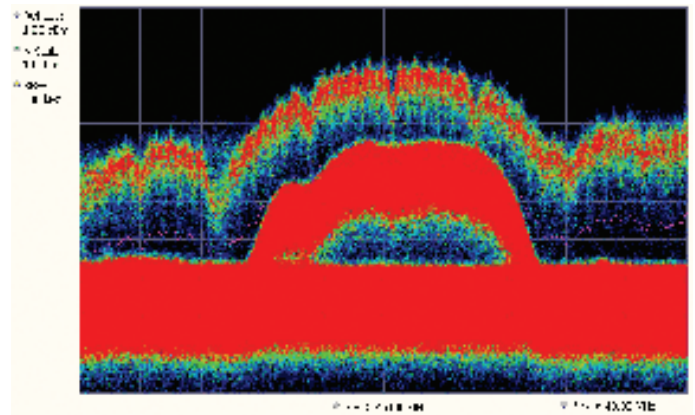

Figure 4. The RSA6000 Series shows the laptop transmissions, access point signal and background noise, all in its live-motion bitmap trace.
Compare the display of a traditional swept spectrum analyzer (Figure 3) and that of a real-time spectrum analyzer with a DPX spectrum display (Figure 4). The signal captured is a typical WLAN interchange between a nearby PC and a more-distant network access point (AP). The laptop signal is nearly 30 dB stronger than the AP's signal because it is closer to the measuring antenna.
The DPX spectrum display, Figure 4, reveals much more insight on the same signal. Since it is a bitmap image instead of a line trace, you can distinguish many different signals occurring within each update period and/or different version of the same signal varying over time. The heavy band running straight across the lower third of the graph is the noise background when neither the laptop nor the AP is transmitting. The red lump of energy in the middle is the ON shape of the AP signal. Finally, the more delicate spectrum above the others is the laptop transmissions. In the color scheme used for this demonstration (“Temperature”), the hot red color indicates a signal that is much more frequent than signals shown in cooler colors. The laptop signal, in yellow, green and blue, has higher amplitude but doesn't occur nearly as often as the AP transmissions because the laptop was downloading a file when this screen capture was taken.